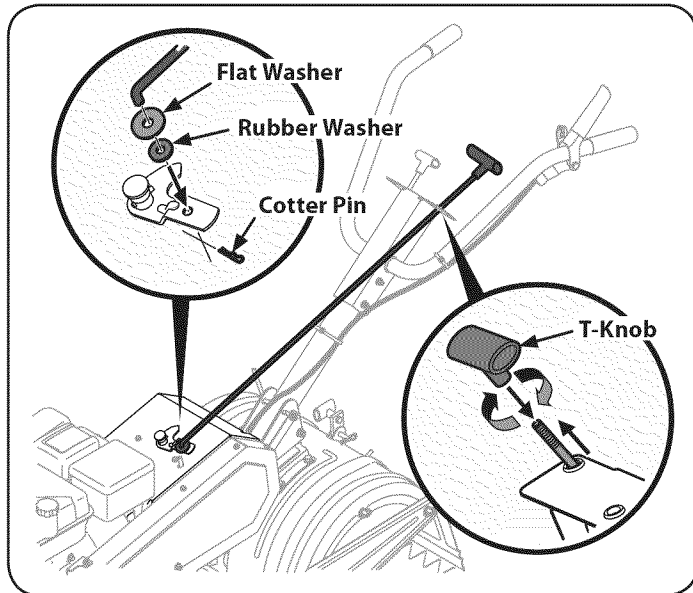

Figure 4
2. Remove the hairpin clip, rubber washer, flat washer and T-knob from the control rod and put the rubber washer in place. See Figure 4.
3. Slide the shift rod up through the upper handle assembly, insert the lower end of the shift rod into the indicator bracket and secure with the previously removed hardware. See Figure 4.